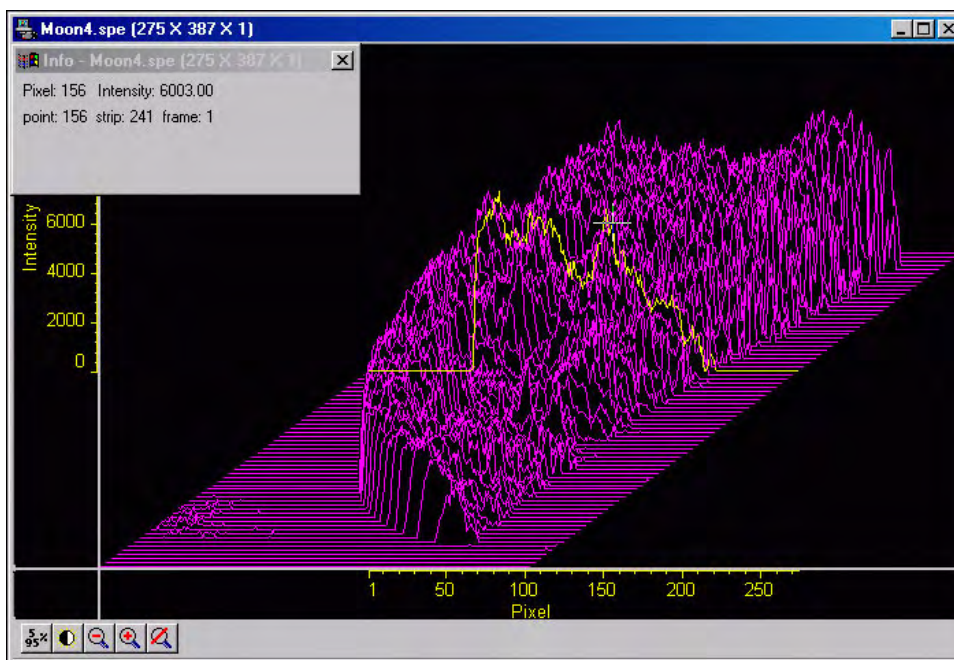

Figure 69. 3D display with Cursor Curve and Marker Curves
1. On the 3D Layout tab page, select **Highlight Cursor Curve** and **Marker Curves On**. Then press **OK**. The cursor curve and marker curves should be clearly delineated. Note that on a color monitor they would be in contrasting colors and much easier to see than in a black and white print (Figure 69).